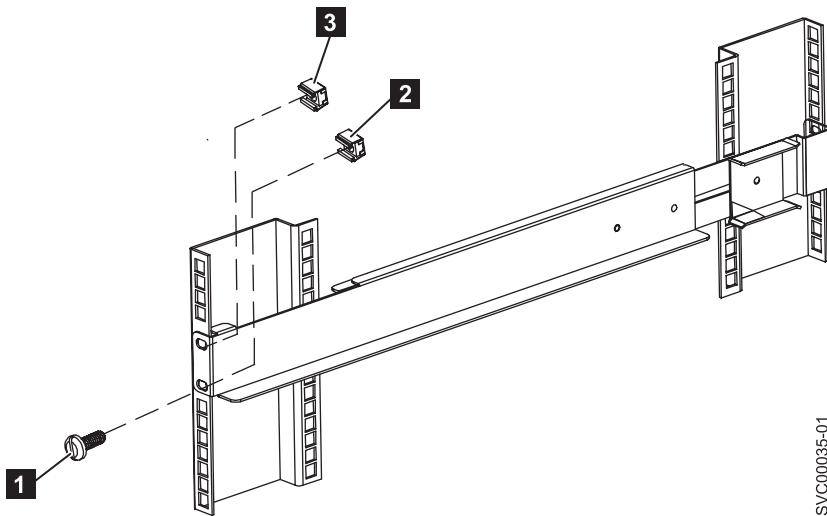

Figure 313. Removing the front rail on the 2145 UPS-1U
3. Remove the clip nut from the top hole of the rail (**3** in Figure 313).